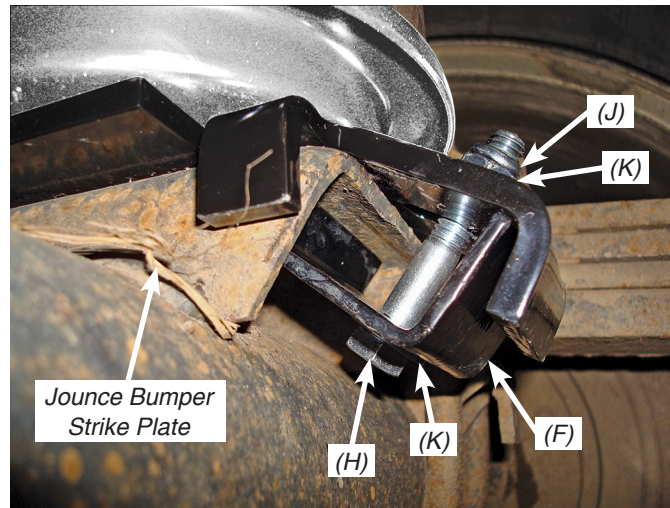

fig. 12
1. Raise the axle or lower the frame and make sure the lower bracket has nested over the Jounce Bumper strike plate (figs. 12 & 13).